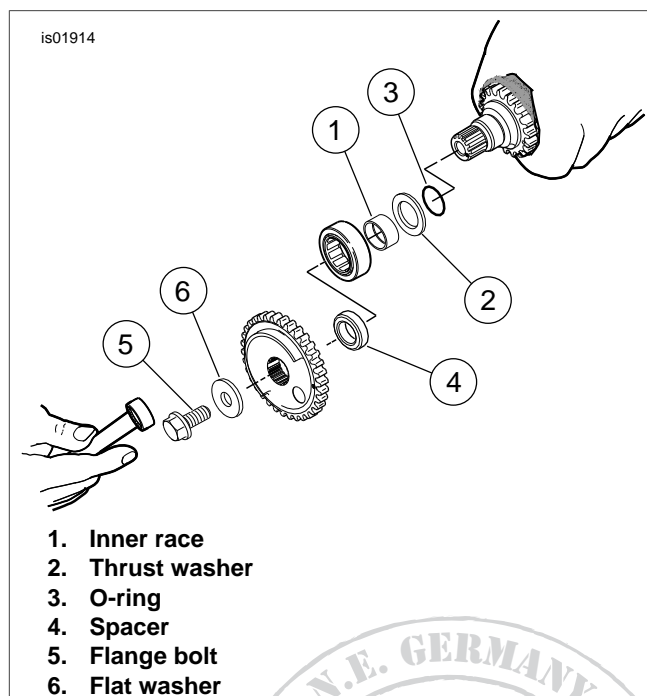

Figure 2. Install Bearing Inner Race with O-Ring and Thrust Washer using Cam Drive Sprocket
See Figure 2. If not enough of the splined shaft is exposed to install the sprocket, omit the spacer (4) and proceed to step 2e. When the bearing inner race is started onto the machined area, remove the flange bolt (5), flat washer (6) and sprocket, then assemble using the spacer (4). Repeat step 2e to fully install bearing inner race.
- a. See Figure 2. To properly locate the thrust washer (2), install the O-ring (3) in the grinding relief groove on the splined end of the rear camshaft between the machined area and the secondary cam sprocket.